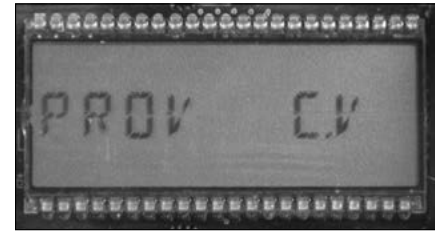

Figure 3 - LCD screen displays PROV C.V
- Using the magnet swipe across the "swipe" line until the screen displays **PROV C.V** (Figure 3), and then stop swiping.